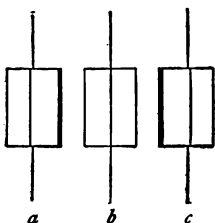

FIG. 82.—LINE AS SEEN (a) FROM THE RIGHT, (b) FROM THE FRONT, AND (c) FROM THE LEFT
4. A piece of plate glass is placed over a straight line drawn upon a piece of paper. Explain the different effects (Fig. 82) when it is looked at from different points as indicated.